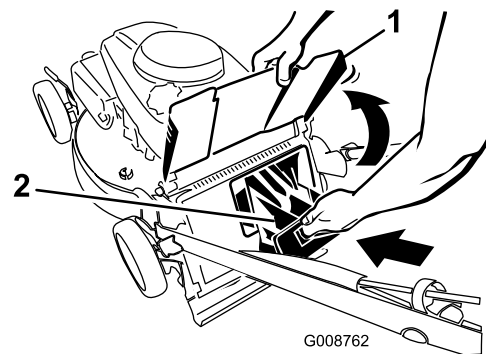

Figure 26
4. Insert the mulch plug into the opening at the rear of the mower housing until it snaps into place (Figure 26).